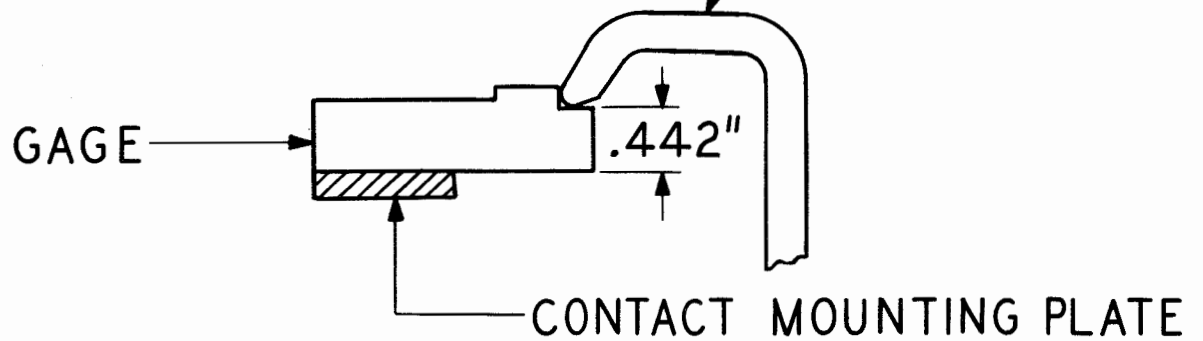

Figure 26
- (a) The clearance between the toes of the pullbar hooks and the top of the contact mounting-plate shall be as close as possible to that shown in Figure 26.